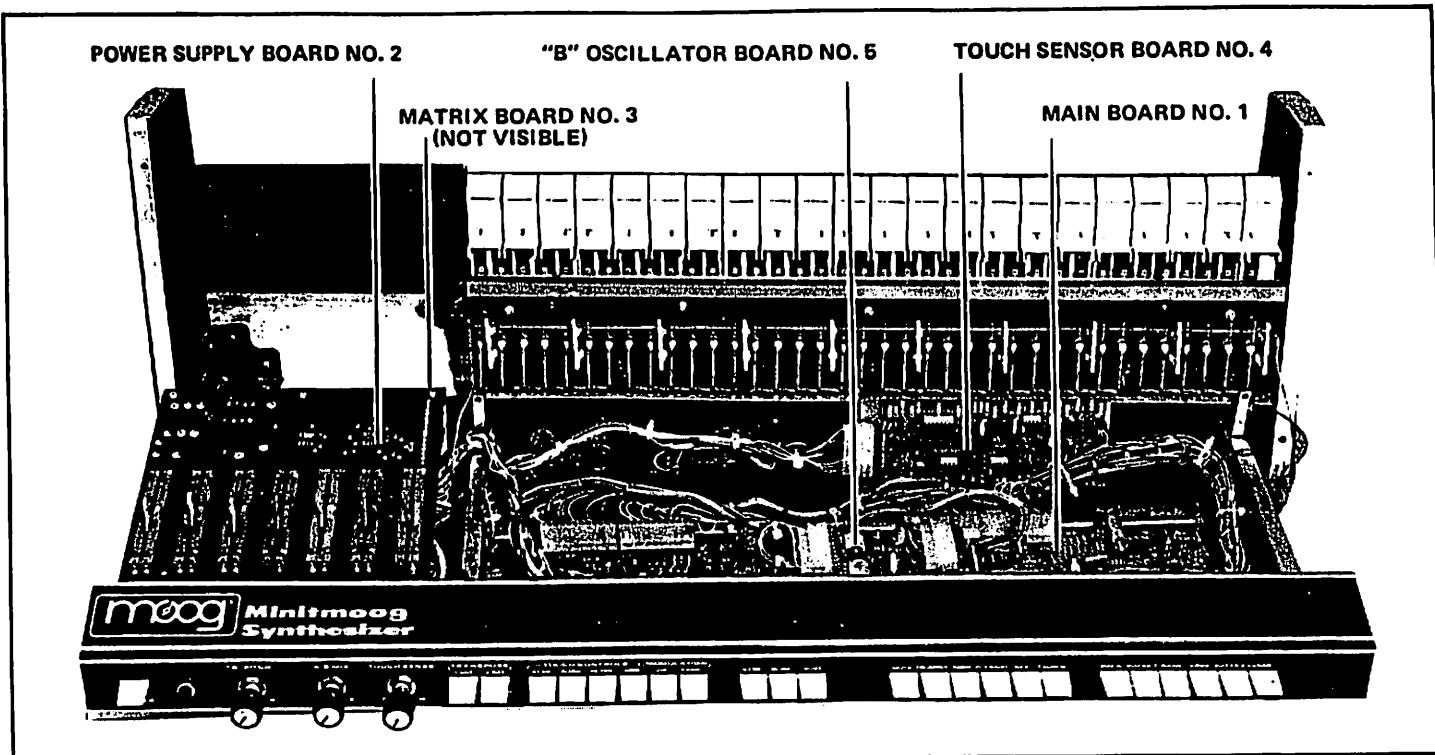

FIGURE 3-1 MINITMOOG PRINTED CIRCUIT BOARD LOCATIONS (INSIDE VIEW)
- b) Stand instrument on one end and remove three screws securing large bottom cover (Figure 3-1) to instrument using a medium sized Phillips head screwdriver and remove cover.
- a) Main Board No. 1 — Disconnect 5 electrical connectors, depress levers on 6 fastening devices and remove board from bottom cover. (See Figure 3-1.)